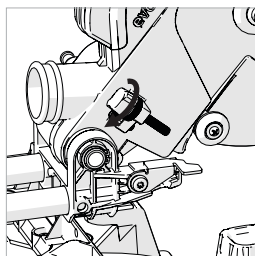

Fig. 26c
- Adjust the thumb - screw **(Fig. 26c)** to limit the cutting heads travel to the required depth.